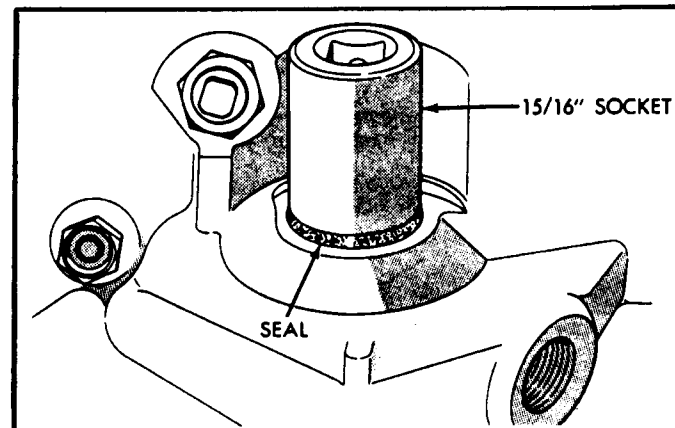

Figure 155
58. Install a new manual shaft seal in the case using a 15/16" socket, as shown in Figure 155.